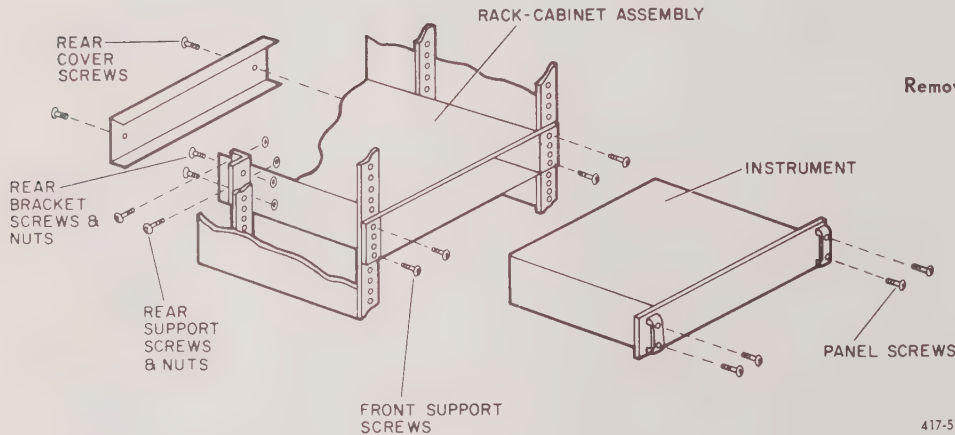

Figure 2-4.
a. Remove the panel screws (P/N 7270-6310, No. 10-32, 9/16 in. with nylon washer) and slide the instrument out of its cabinet (Figure 2-4).